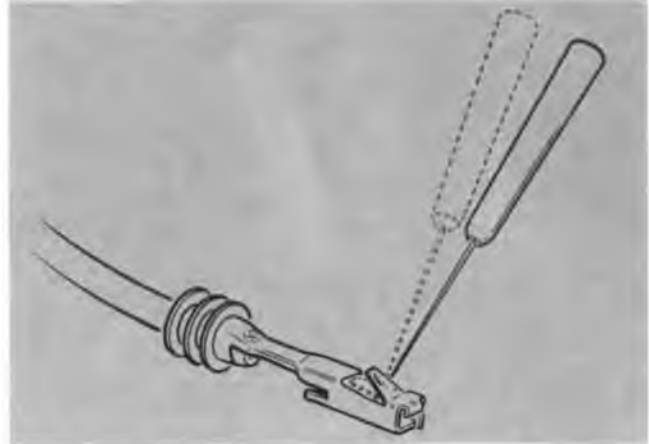

Figure 6-4 Re-forming Locking Tang
- Step 2 Use the pick tool to bend the locking tang back into its original shape (see Figure 6-4). Also, check to see that the remainder of the terminal is still in its original shape.